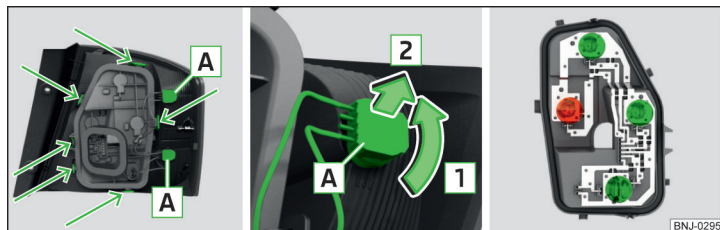

Fig. 293 Outer part of the lamp / removing the bulb / lamp holder
- › Turn the holder with the bulb **A** in the direction of arrow **1** » Fig. 293.
- › Unlock the bulb holder at the areas marked with arrows » Fig. 293 and remove the bulb holder from the light.